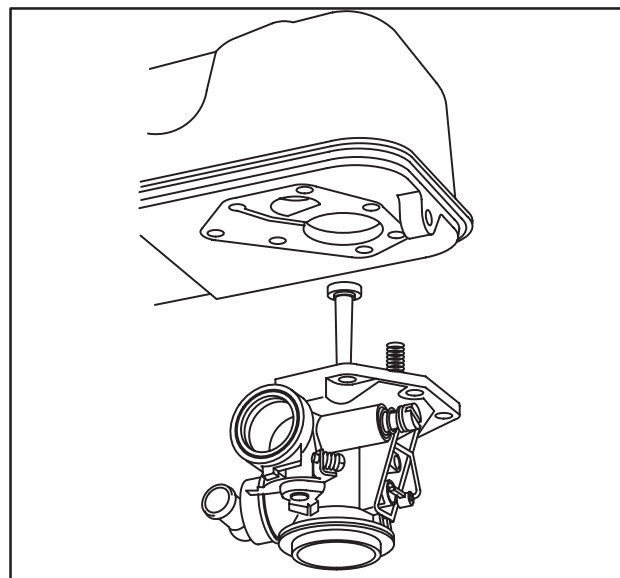

Fig. 164 – ASSEMBLING TANK TO CARBURETOR
3. Lower tank down onto carburetor, while guiding choke spring into spring well, Fig. 164.